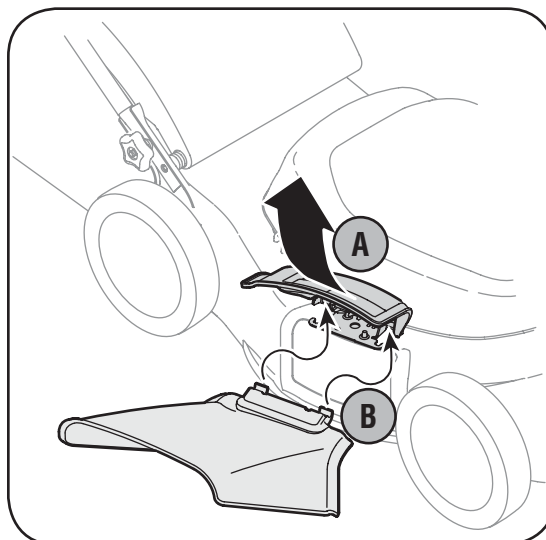

Figure 3-7
- b. Slide chute hooks under hinge pin on mulching plug assembly. Lower mulching plug. See Figure 3-7.